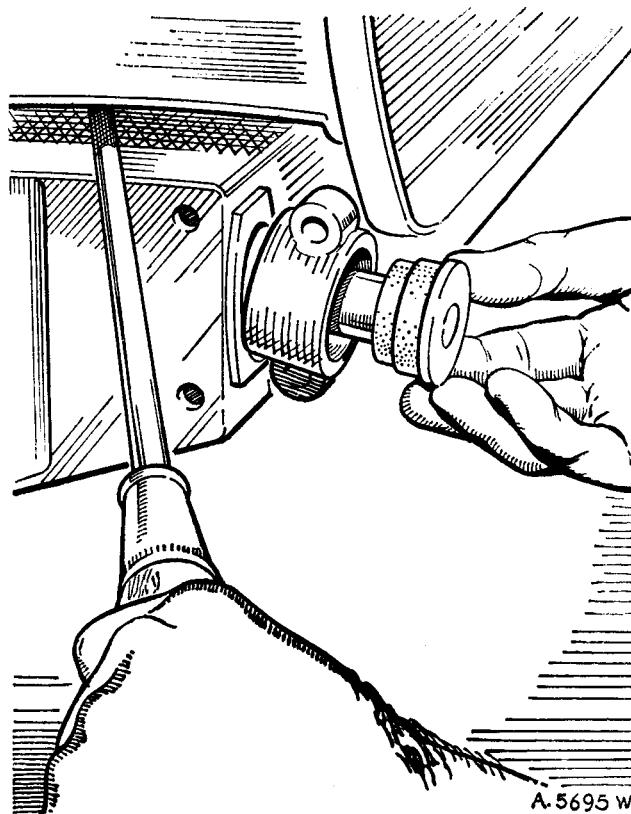

Fig. H.3
3. Unscrew and remove the nut securing the mounting support pin to the sub-frame (Fig. H.3). Withdraw the mounting block to body screws. Prise the body and sub-frame apart sufficiently to allow the support pin, blocks, and rubbers to be extracted.